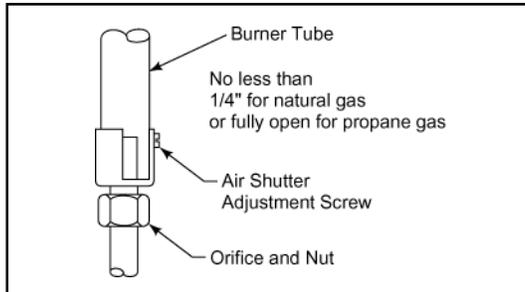

Figure 33 - Burner Orifice
Completely loosen the nut securing the orifice with a 5/8" wrench (refer to Figure 33). Remove the orifice and replace it with the propane orifice. Tighten the nut.
- c.** To adjust the air shutter at the base of the burner tube/neck, loosen the 1/4" screw using either a 1/4" nut driver or "stubby" screwdriver. Slide the shutter fully open and secure. See Figure 33.